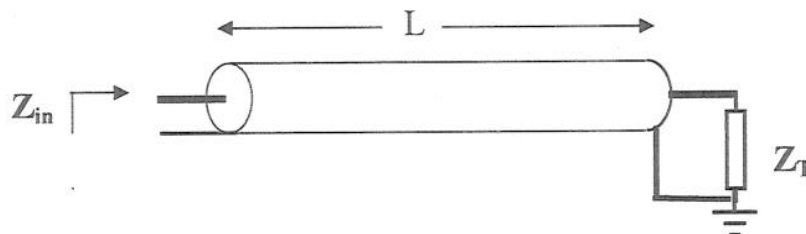

Figure 3.1: Transmission line for problem 3.
- Write an expression for the input impedance Z_{in} of this cable when the cable is terminated in an impedance Z_T , as shown in Figure 3.1. Calculate the magnitude of Z_{in} if the frequency is such that $\lambda = 8L$. [4]